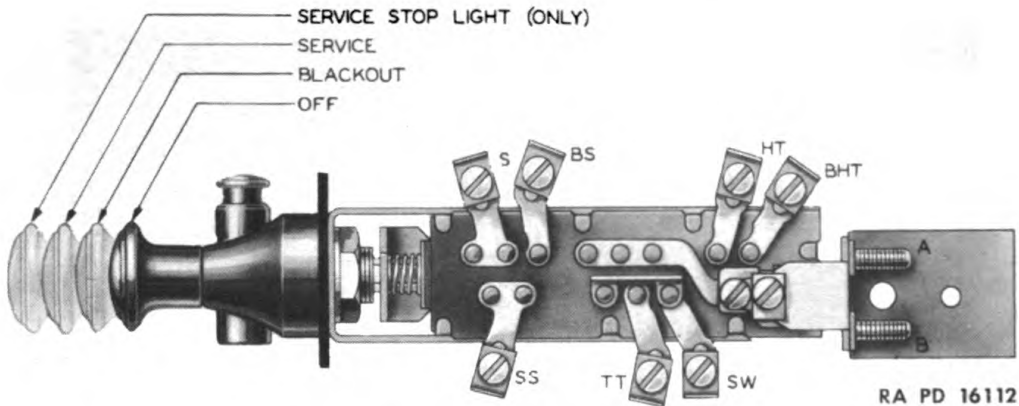

Figure 12—Main Light Switch
j. Main Light Switch. Main light switch (Fig. 12), located on instrument panel, is a four-position push-pull type switch which controls both service and blackout head lamps, service and blackout stop and tail lamps. Switch is equipped with a circuit breaker type fuse which automatically opens light circuit when a short occurs and automatically closes circuit when thermostatic element in circuit breaker cools off. Switch operates in the following manner: